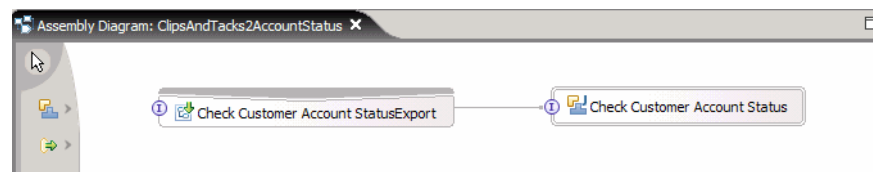

Figure 15-3 Global task assembly diagram
- ▶ Select the new component and *Export* → *SCA Binding*. This creates an export named Check Customer Account StatusExport (Figure 15-3).